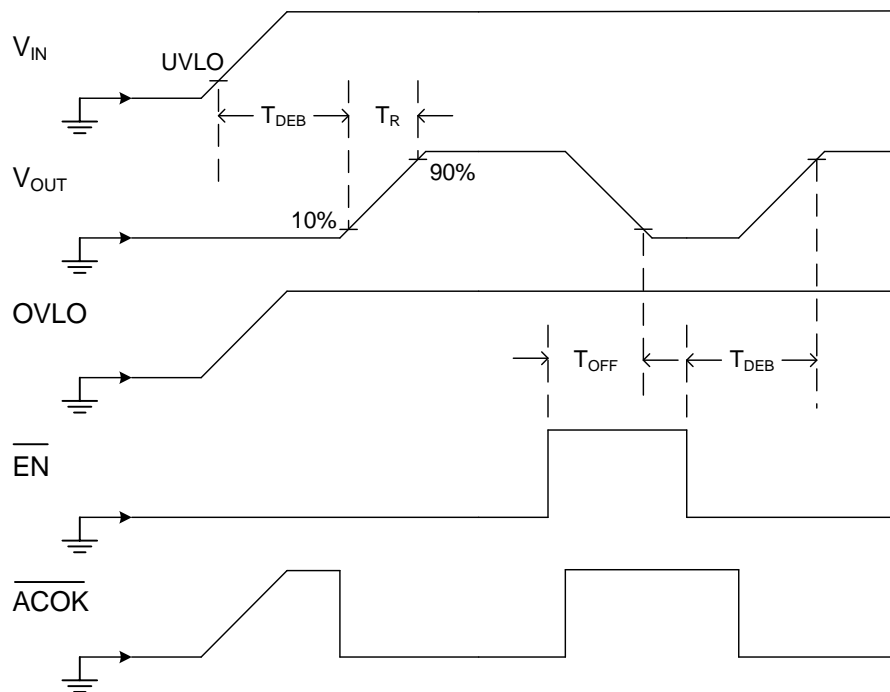

Figure 1. Ramp-up and  $\overline{\text{EN}}$  Toggling
9. Timing as defined in Figure 1.